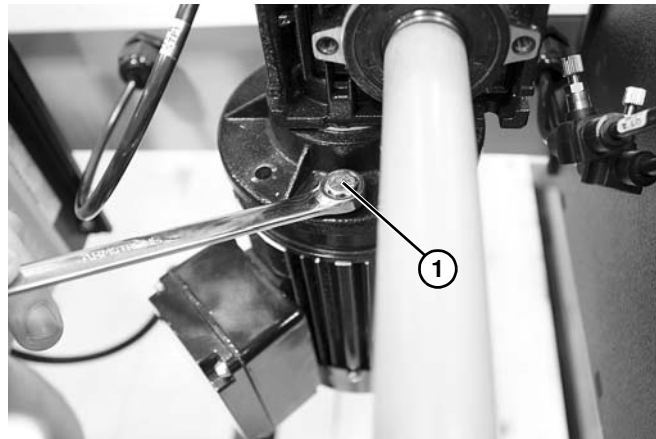

Figure 28
2. If the shaft of the motor is seized in the gear reducer, install hex flange screws (**Figure 28, item 1**) into the threaded holes of the gear reducer. Turn screws evenly clockwise to free motor from gear reducer.